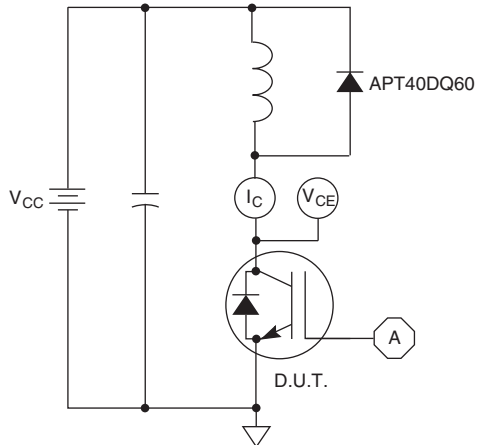

Figure 21, Inductive Switching Test Circuit
- ① Repetitive Rating: Pulse width limited by maximum junction temperature.
- ② For Combi devices, I_{ces} includes both IGBT and diode leakages
- ③ See MIL-STD-750 Method 3471.
- ④ E_{on1} is the clamped inductive turn-on energy of the IGBT only, without the effect of a commutating diode reverse recovery current adding to the IGBT turn-on loss. Tested in inductive switching test circuit shown in figure 21, but with a Silicon Carbide diode.
- ⑤ E_{on2} is the clamped inductive turn-on energy that includes a commutating diode reverse recovery current in the IGBT turn-on switching loss. (See Figures 21, 22.)
- ⑥ E_{off} is the clamped inductive turn-off energy measured in accordance with JEDEC standard JESD24-1. (See Figures 21, 23.)
- ⑦ R_G is external gate resistance, not including R_{Gint} nor gate driver impedance. (MIC4452)